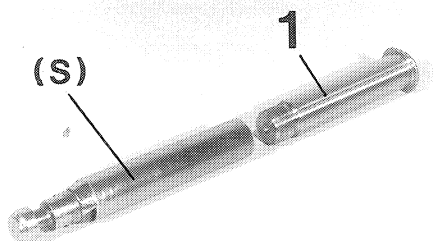

Figure 49
Install control arm pin (Figure 49 ... 56)
Figure 49 shows the Special tool (S), required for the assembly of the control arm pin.